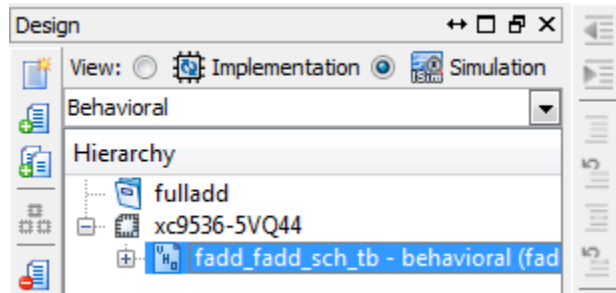

Figure 17: Hierarchy pane for full adder project behavioral simulation
- Look in the Design Hierarchy pane, click to select the Simulation button, check that the 'Behavioral' choice is made and double click on 'fadd_fadd_sch_tb' so the corresponding test bench file appears in the text editor window. The Design Hierarchy pane should look like that in Figure 17. ISE provides at least two opportunities to use simulation to check the correctness of a circuit.